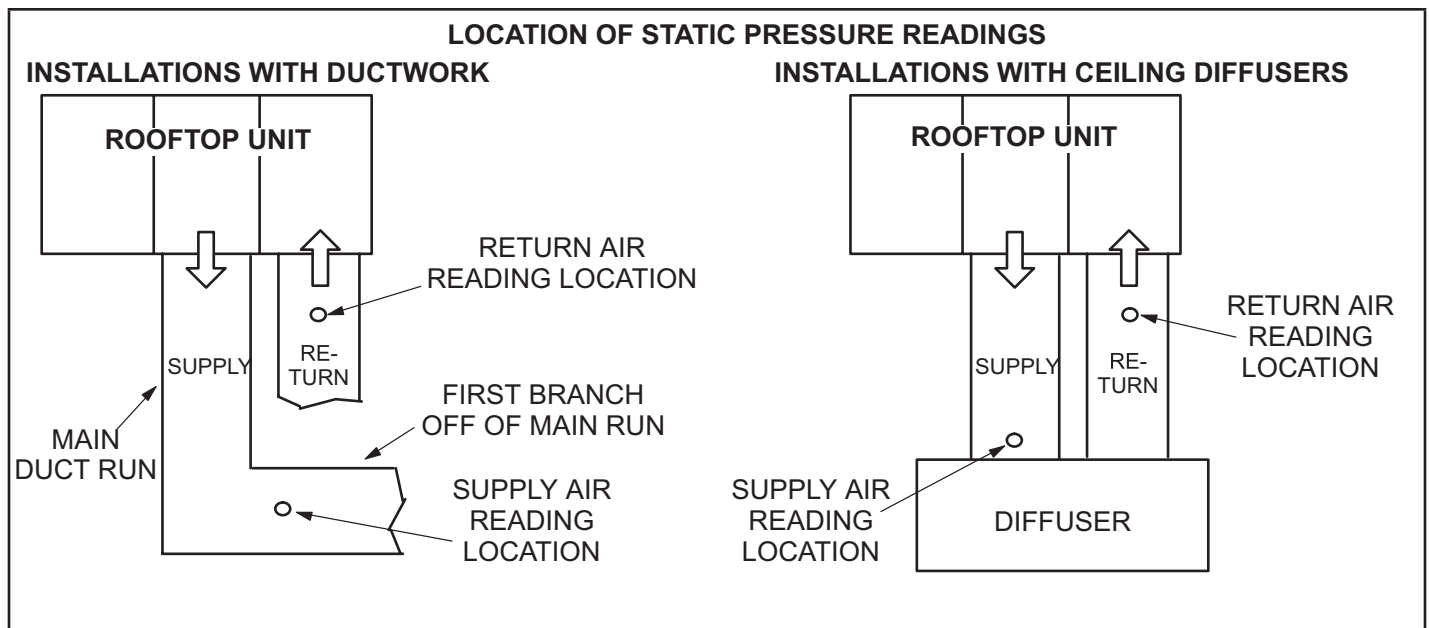

FIGURE 24
- 2 - With all access panels in place, measure static pressure external to unit (from supply to return). Blower performance data is based on static pressure readings taken in locations shown in FIGURE 24.